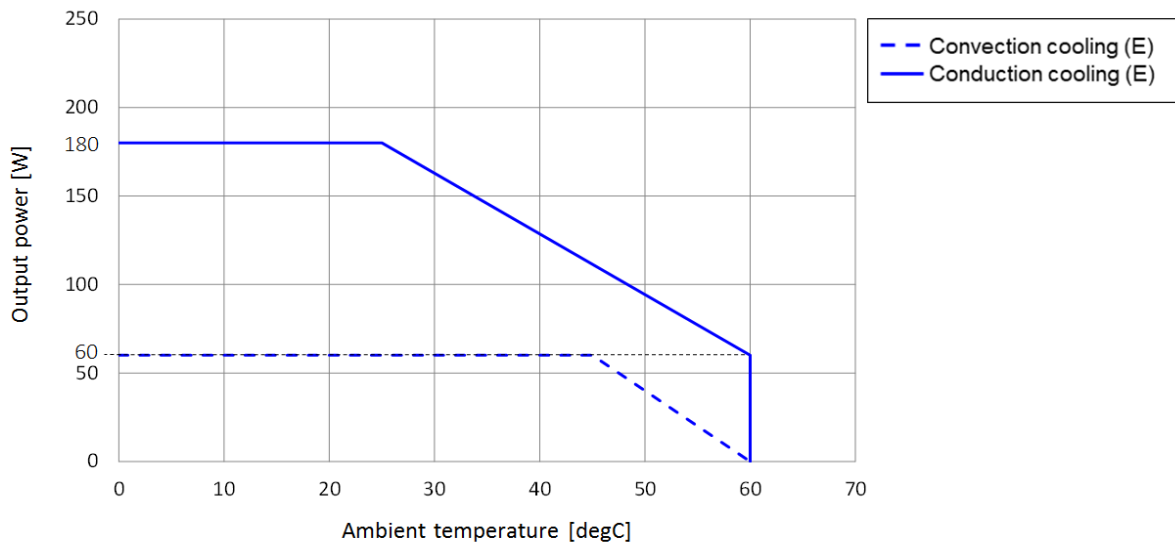

Fig 2.9 Conduction cooling at (E) mounting
The derating curve comparison between conduction cooling and convection cooling (E) mounting is shown in Fig 2.9.